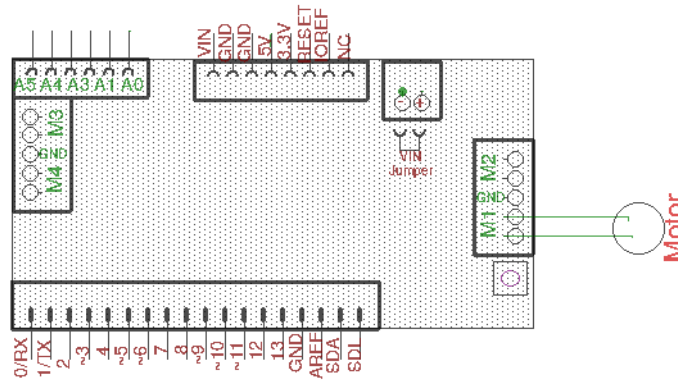

Figure 6.1: Circuit diagram for Activity 5
The circuit for this activity is very simple. It does not need a breadboard. First, the motor shield needs to be inserted on top of the Arduino Uno. There is only one orientation of the shield for which all of the male pins on the shield are inserted in the Arduino female slots. The circuit in Fig. 6.1 shows only the connections on the motor shield. Essentially, the DC motor needs to be
**Important:** the Adafruit motor shield uses a jumper to configure how the motor shield receives power. The jumper should short-circuit the *Vin jumper* pins as shown in Fig. 6.1. This way, the shield receives power from the Arduino board and the four AA batteries that supply it.